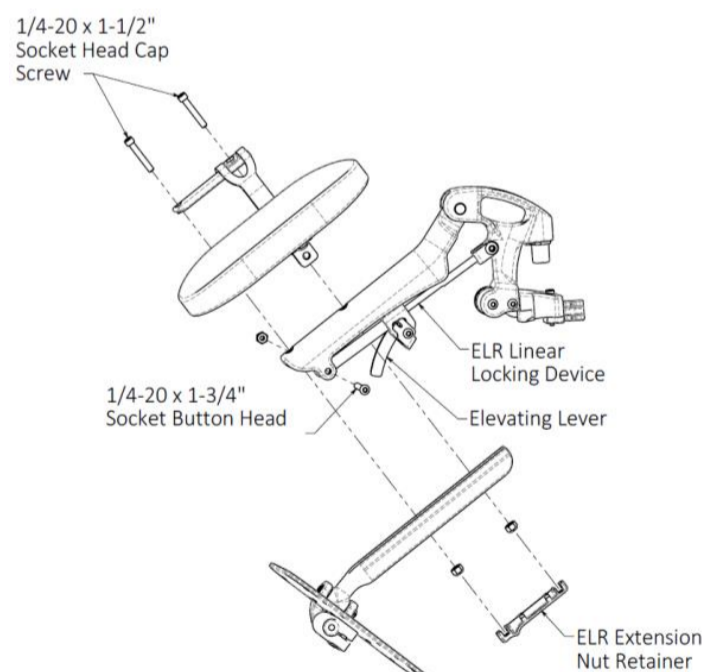

Figure 14.16: *Elevating Legrest Footrest Height adjustment*
- Loosen and remove the 1/4-20 x 1-3/4" Socket Button Head which holds the ELR's linear locking device, shown in figure 14.16.